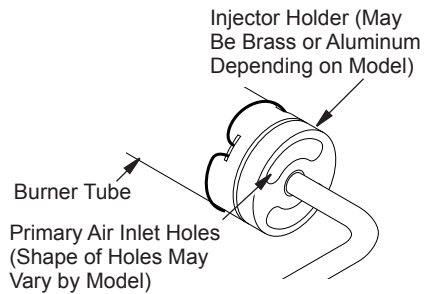

Figure 32 - Injector Holder On Outlet Burner Tube
2. Inspect burner, pilot and primary air inlet holes on injector holder for dust and dirt (see Figure 32).